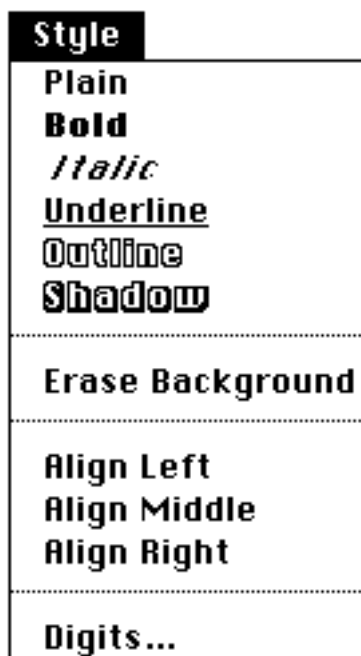

Fig 3.93 Style menu
- Select Digits from the Style menu (Fig 3.93) to modify the format of the numbers if adjacent labels conflict, for example. Shift-click to select existing labels before changing the default format.
Use the Plain, Bold, Italic, Underline, Outline, and Shadow styles (Fig 3.93) as you would in your word processor.
- Select Digits... (Fig 3.93) to modify the display format.